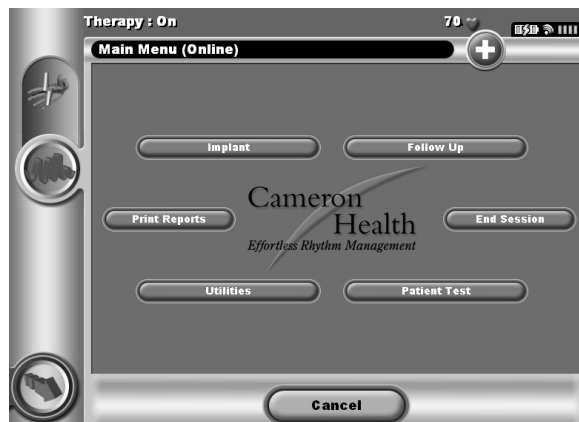

Figure 24: Select the Implant button to create a patient chart
2. Select the Implant button (Figure 24).